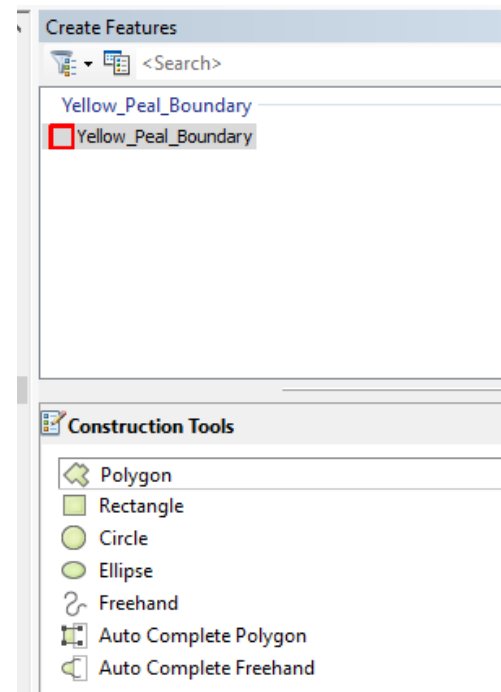

Figure 29. Create Feature
- In the Editing Window (Figure 29), select your boundary polygon in the top box.